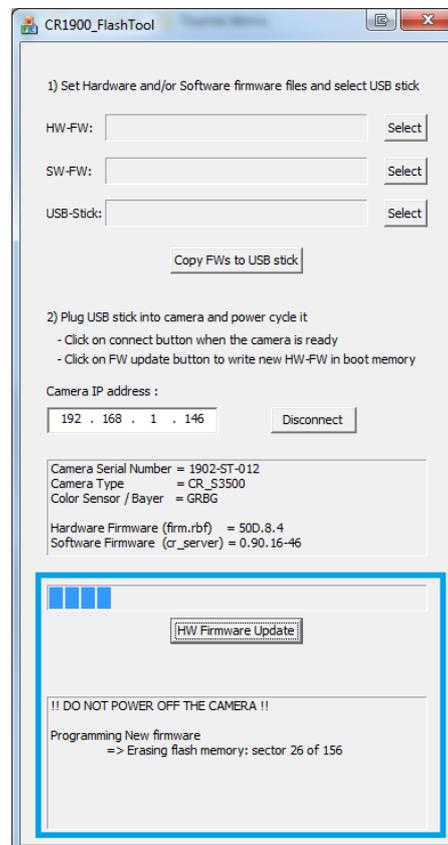
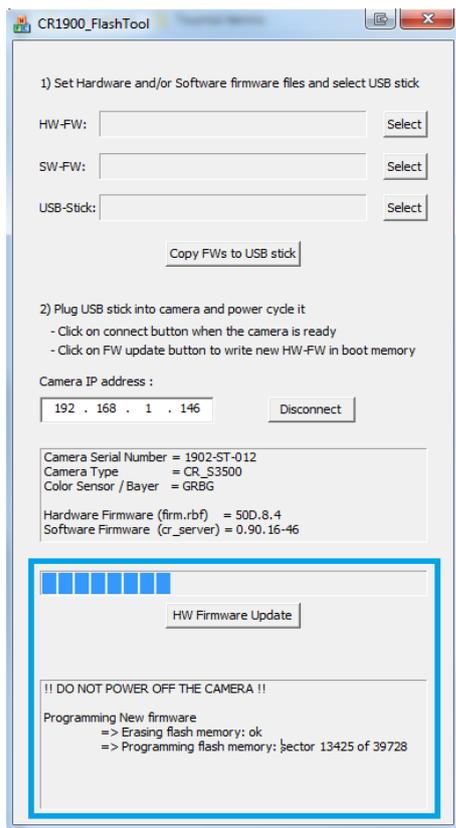

Figure 32: HW Update progressing 1/2
Figure 33: HW Update progressing 2/2
- Click on “HW Firmware Update” button and wait (see Figure 32 and Figure 33). Update process takes ~8 minutes.